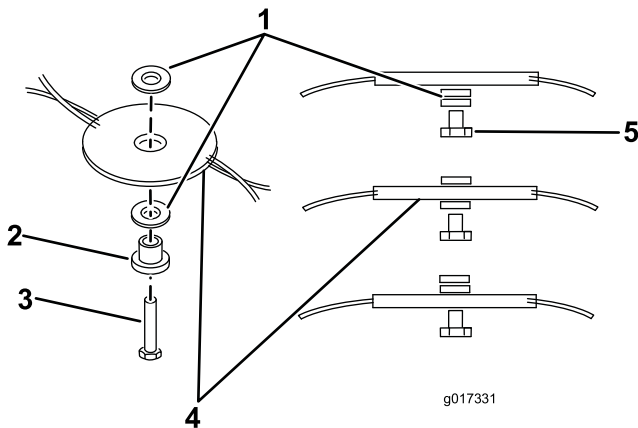
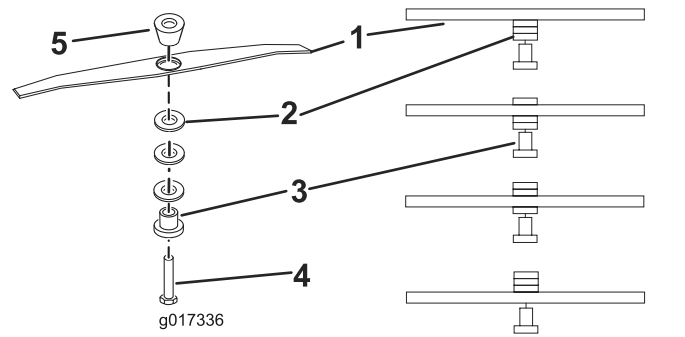

Figure 13
Figure 14
6. Reposition the spacers to the desired height, then reinstall the flexiblade/cutterbar (Figure 14, Figure 13).